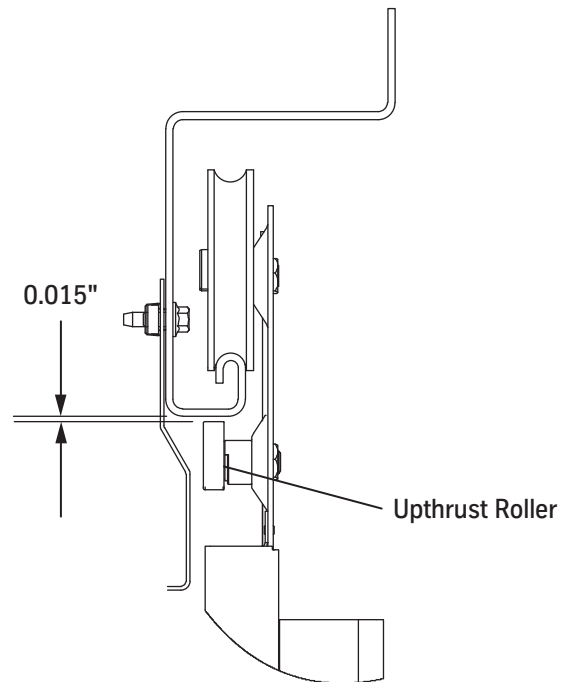

Figure 14 - Adjust Upthrust Roller Clearance
2. Adjust the eccentric so that a gap of 0.015" is between the upthrust roller and the door track. See Figure 14.